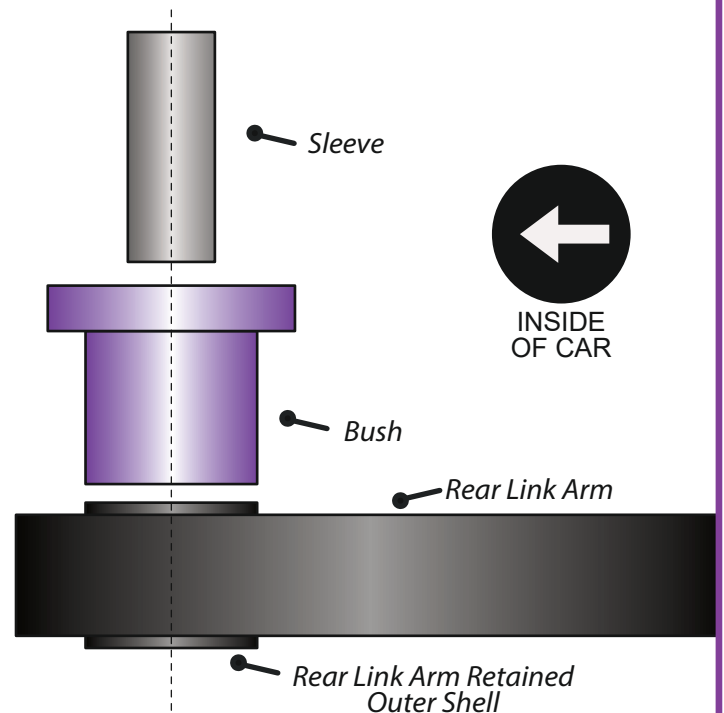

Figure 1
3. Insert the polyurethane bush into the arm with the flange facing the rear of the vehicle as shown in Fig 1.